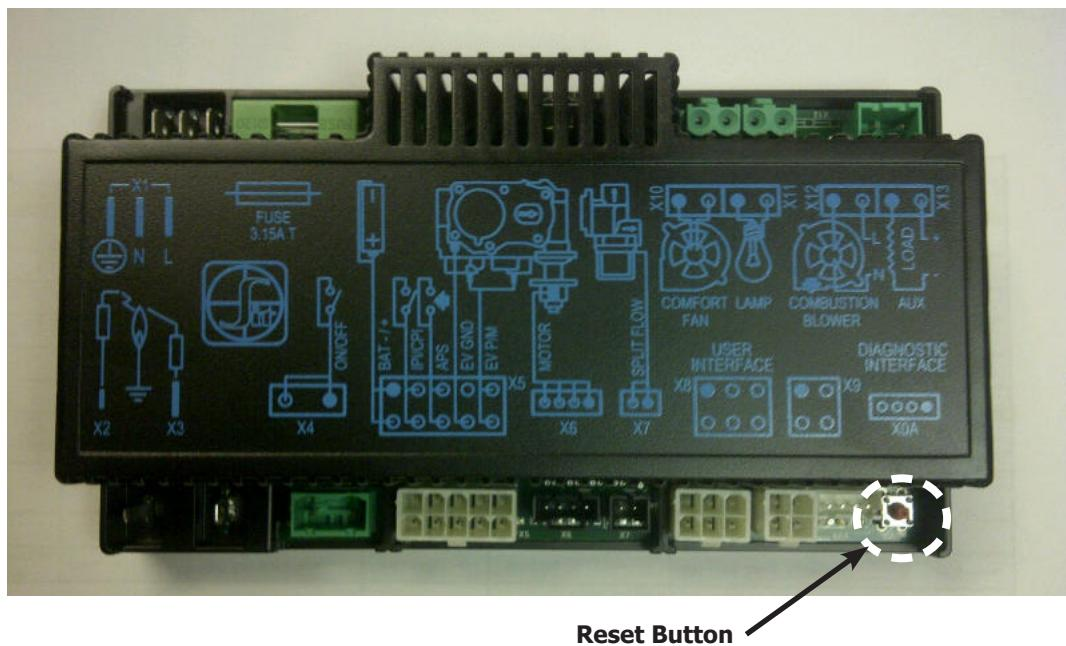

Figure 7: Integrated Fireplace Controller
The Proflame 2 IFC (Figure 7) connects directly to the gas valve, stepper motor, pilot and convection fan with a wiring harness. The IFC is mainly powered by 120 VAC but can also run off a battery backup four (4) AA type batteries for shorter periods of time. The IFC accepts commands via radio frequency from the Transmitter to operate the appliance in accordance with the particular Proflame 2 system configuration. The IFC has a red reset button at the front right corner that is used to synchronize the Transmitter when using the for the first time, or after the batteries have been replaced.
Install the four (4) AA batteries into the IFC battery holder. Note the polarity of the battery and insert into the battery bay as indicated on the body of the battery holder. Press the reset button on the IFC marked "SW1" (see Figure 7).